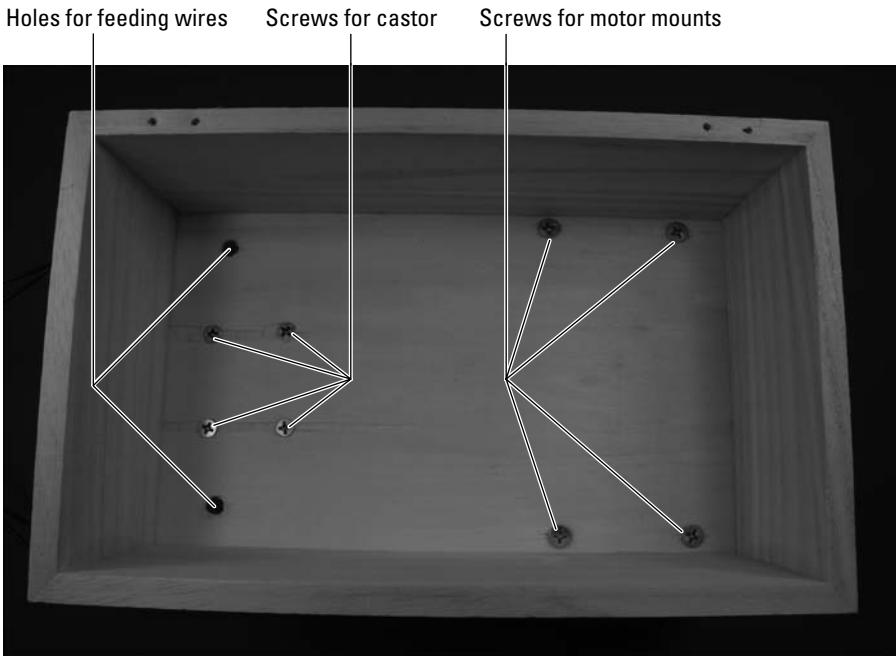

Figure 13-29:
2. Drill holes for the 6-32 screws used to mount the castor, as shown in Figure 13-29.
3. **Mark a location about an inch to each side of the castor and drill holes with a 1/4" bit to feed the wires to the motors and sensors, as shown in Figure 13-29.**
4. **Using a mending brace to mark the four holes you will drill in the box to mount the motors, drill holes for 8-32 screws, as shown in Figure 13-29.**